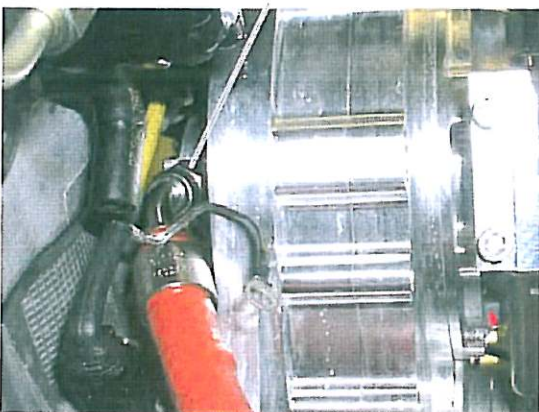

Figure 4
5. Attach the the union nut of hose (P/N 02-6120-16026R3, item 14 in the part list of the regular Service Bulletin) to the adapter at the rotary feed-through and tighten up the union nut to the specified tightening torque while holding the adapter steady. See Figure 4.